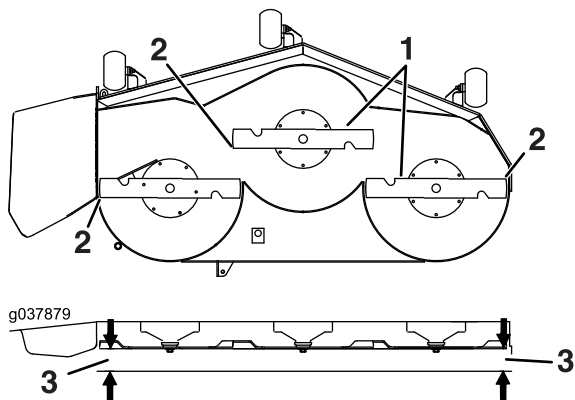

Figure 102
6. Measure between the blade tip and the flat surface (Figure 102). If both measurements are not within 5 mm (3/16 inch), adjust the leveling; continue with this procedure.
14. Carefully rotate the blades side to side (Figure 102).